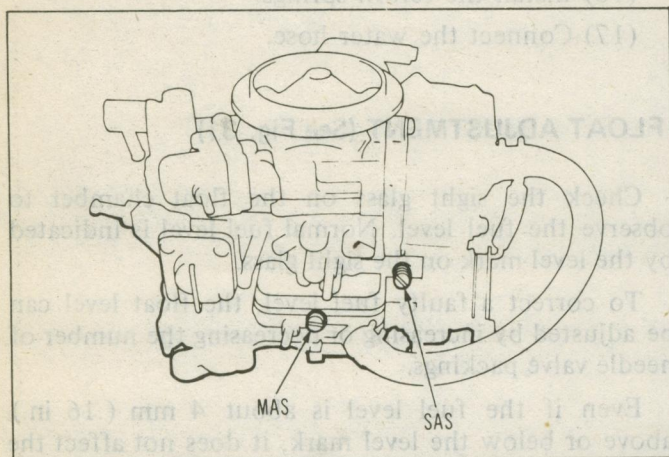

Fig. 32 Adjusting Screw
(1) Run the cold engine at idle until the coolant temperature is raised to 80 to 90°C (170 to 190°F).
(2) Set the engine speed and idle CO concentration to the enriched idle speed and enriched idle CO, as specified below, by adjusting the idle speed adjusting screw (SAS) and the idle mixture adjusting screw (MAS). (Fig. 32)
(3) Set the engine speed and the idle CO concentration to the respective values specified below, by adjusting the idle speed adjusting screw (SAS) and the idle mixture adjusting screw (MAS). (Fig. 32)